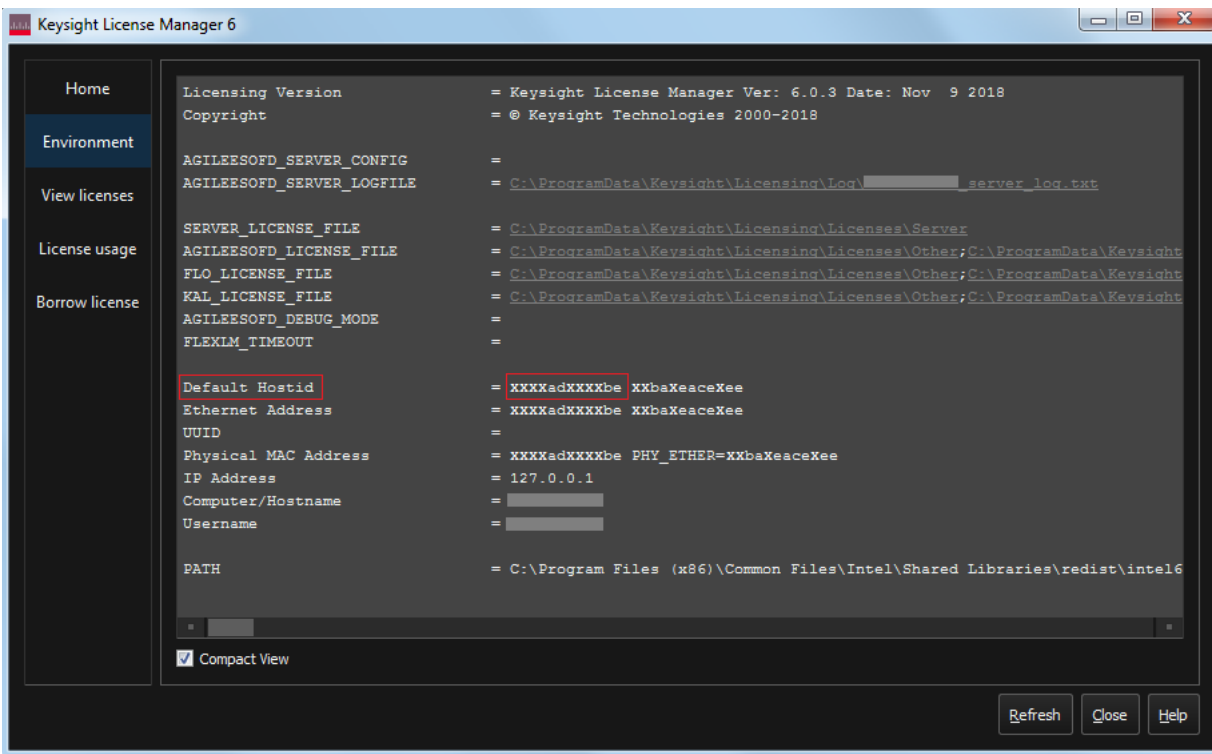

Figure 3 Viewing the Host ID information in Keysight License Manager 6
- 2 Copy the Host ID, which is the first set of alphanumeric value (as highlighted in Figure 3) that appears in the Environment tab of the application. Note that x indicates numeric values.